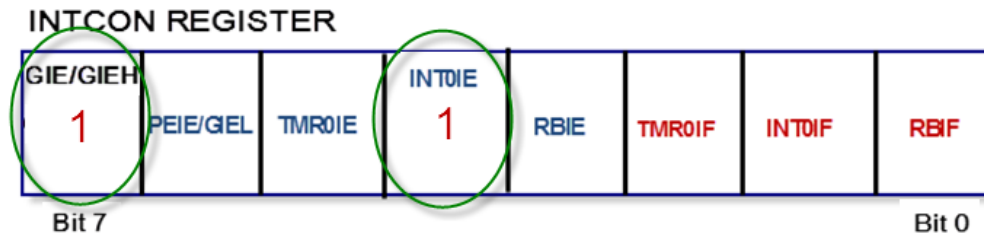

Fig. 12 Settings of INT0IE and GIE bits for enabling INT0 interrupts
Bit 7 is the Global Interrupt Enable bit. In order to globally enable interrupts we will need to set this to logic 1. See Fig.12 .
3. When an INT0 occurs we will need to check the external interrupt flag bit for INT0. If it is logic one the interrupt source was due to INT0. (bit 2 set to logic 1 see Fig.12).